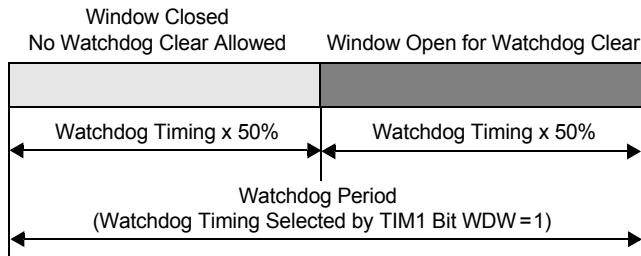
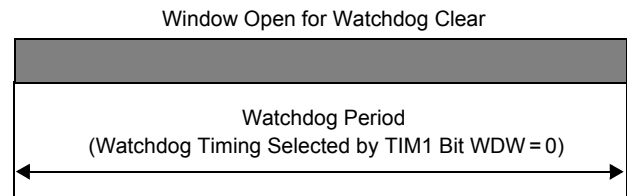

Figure 28. Window Watchdog
Figure 29. Timeout Watchdog
- TIM1—Controls the watchdog timing selection as well as either the watchdog window or the watchdog time-out option (Figure 28 and Figure 29, respectively). TIM1 is selected when bit D3 is 0 (Table 30). Watchdog timing characteristics are described in Table 31.